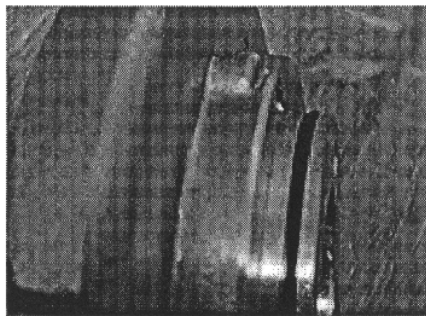

Figure 5
- (d) Replace the 'O' ring fitted on the flange of the pump. (If fitted - the one stripped down in the factory did not have one). Make sure the correct one is used. **(Fig 5)**